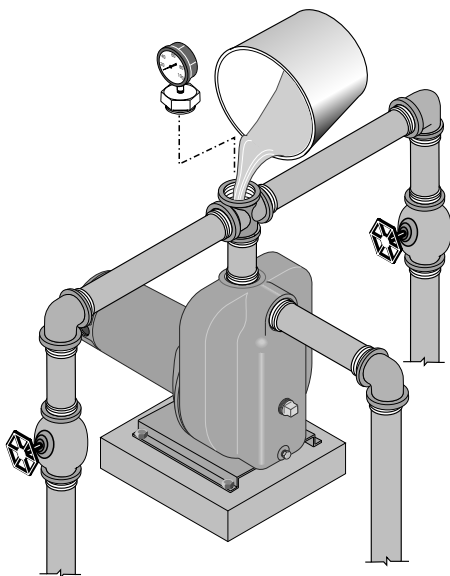

Figure 13 – Remove Priming Plug. Fill Pump Before Starting
Step 1. Remove priming plug (Figure 13). Replacing the priming plug with a reducer bushing with a pressure gauge mounted in it will make troubleshooting pump performance easier.
Step 3. Fill pump and suction pipe with water (Figure 13).